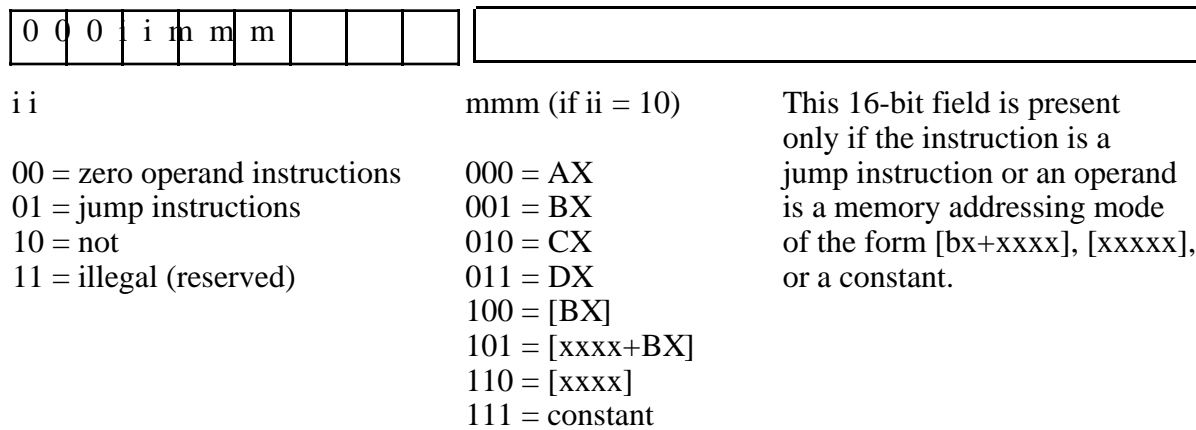
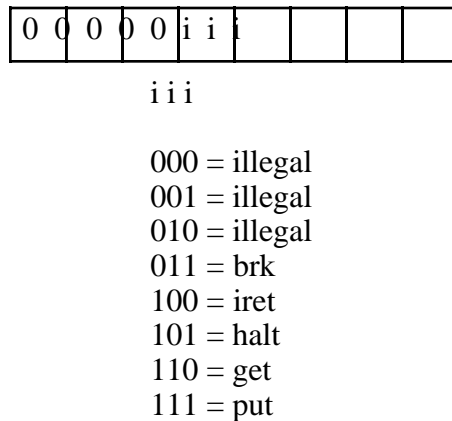
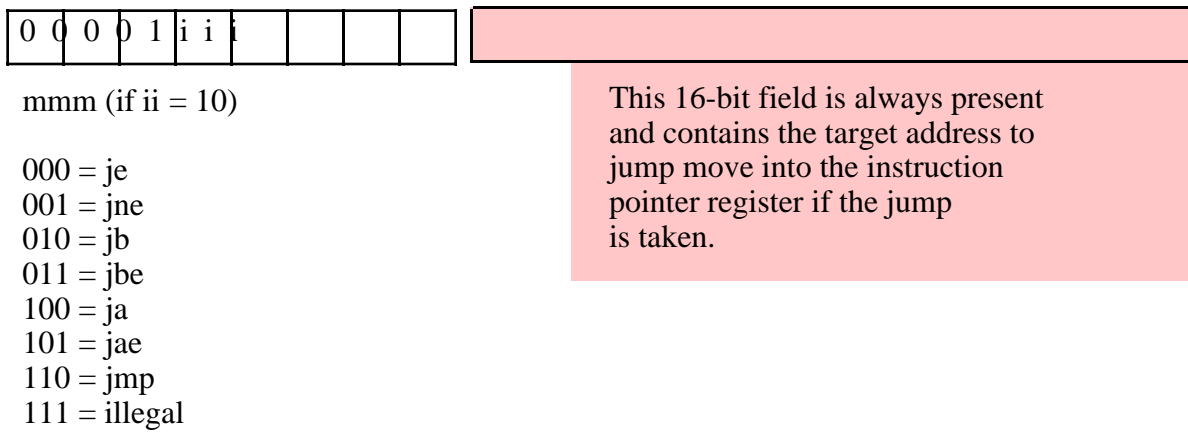

Figure 5.4 Single Operand Instruction Encodings
Figure 5.5 Zero Operand Instruction Encodings
Figure 5.6 Jump Instruction Encodings
The *special* opcode allows the x86 CPU to expand the set of available instructions. This opcode handles several zero and one-operand instructions as shown in Figure 5.4 and Figure 5.5.
There are four one-operand instruction classes. The first encoding (00) further expands the instruction set with a set of zero-operand instructions (see Figure 5.5). The second opcode is also an expansion opcode that provides all the Y86 *jump* instructions (see Figure 5.6). The third opcode is the NOT instruction. This is the bitwise logical not operation that inverts all the bits in the destination register or memory operand. The fourth single-operand opcode is currently unassigned. Any attempt to execute this opcode will halt the processor with an illegal instruction error. CPU designers often reserve unassigned opcodes like this one to extend the instruction set at a future date (as Intel did when moving from the 80286 processor to the 80386).
The last group of instructions, the zero operand instructions, appear in Figure 5.5. Three of these instructions are illegal instruction opcodes. The BRK (break) instruction pauses the CPU until the user manually restarts it. This is useful for pausing a program during execution to observe results. The IRET (interrupt return) instruction returns control from an interrupt service routine. We will discuss interrupt service routines later. The HALT program terminates program execution. The GET instruction reads a hexadecimal value from the user and returns this value in the AX register; the PUT instruction outputs the value in the AX register.
The Y86 conditional jump instructions also use a special encoding. These instructions are always three bytes long. The first byte (the opcode) specifies which conditional jump instruction to execute and the next two bytes specify where the CPU transfers if the condition is met. There are seven different Y86 jump instructions, six conditional jumps and one unconditional jump. These instructions set *mmm*=%000, *rr*=%01, and use the *mmm* field to select one of the seven possible jumps; the eighth possible opcode is an illegal opcode (see Figure 5.6). Encoding these instructions is relatively straight-forward. Once you pick the instruction you want to encode, you've determined the opcode (since there is a single opcode for each instruction). The opcode values fall in the range \$08..\$0E (\$0F is the illegal opcode).
The last group of instructions, the zero operand instructions, are the easiest to encode. Since they have no operands they are always one byte long and the instruction uniquely specifies the opcode for the instruction. These instructions always have *iii*=%000, *rr*=%00, and *mmm* specifies the particular instruction opcode (see Figure 5.5). Note that the Y86 CPU leaves three of these instructions undefined (so we can use these opcodes for future expansion).